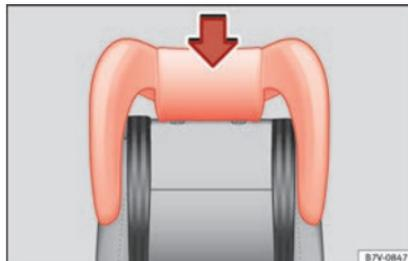

Fig. 95 Integrated child seats. install its head support.
- Enter the child seat head support in the corresponding backrest until it fits correctly into place **» Fig. 95**.